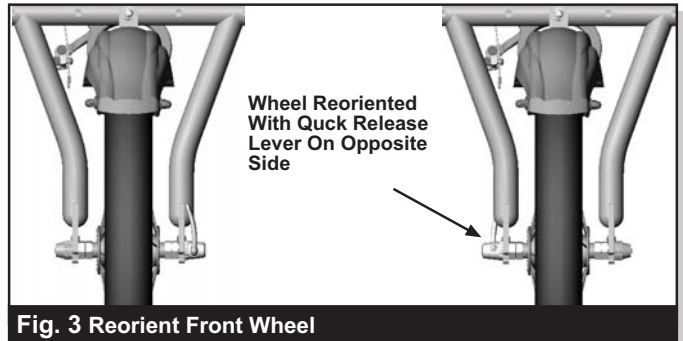

Fig. 3 Reorient Front Wheel
- a. Open the front wheel and front brake quick releases, step 6 of the Owner's Manual. Remove the front wheel and flip it around so the quick release lever is on the opposite side, Fig. 3. Reinstall the